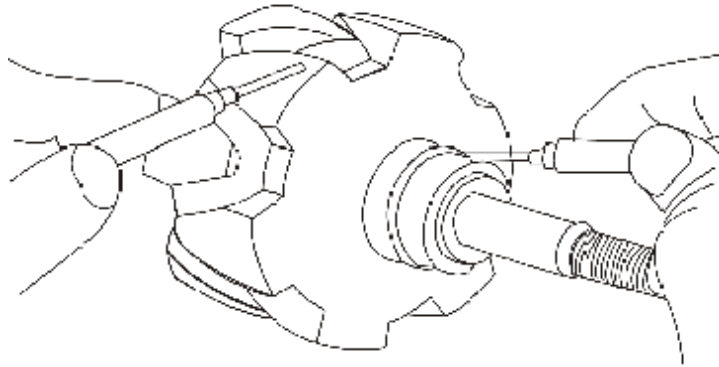

Fig.12-25 Earthing of Generator Rotor Winding
1) Measure the resistance between the stator winding terminals through the ohms range of multimeter, to check the stator winding for breaks (Fig. 12-25). It shall be connected, otherwise it shows that the winding is broken, and it's required to replace the stator.